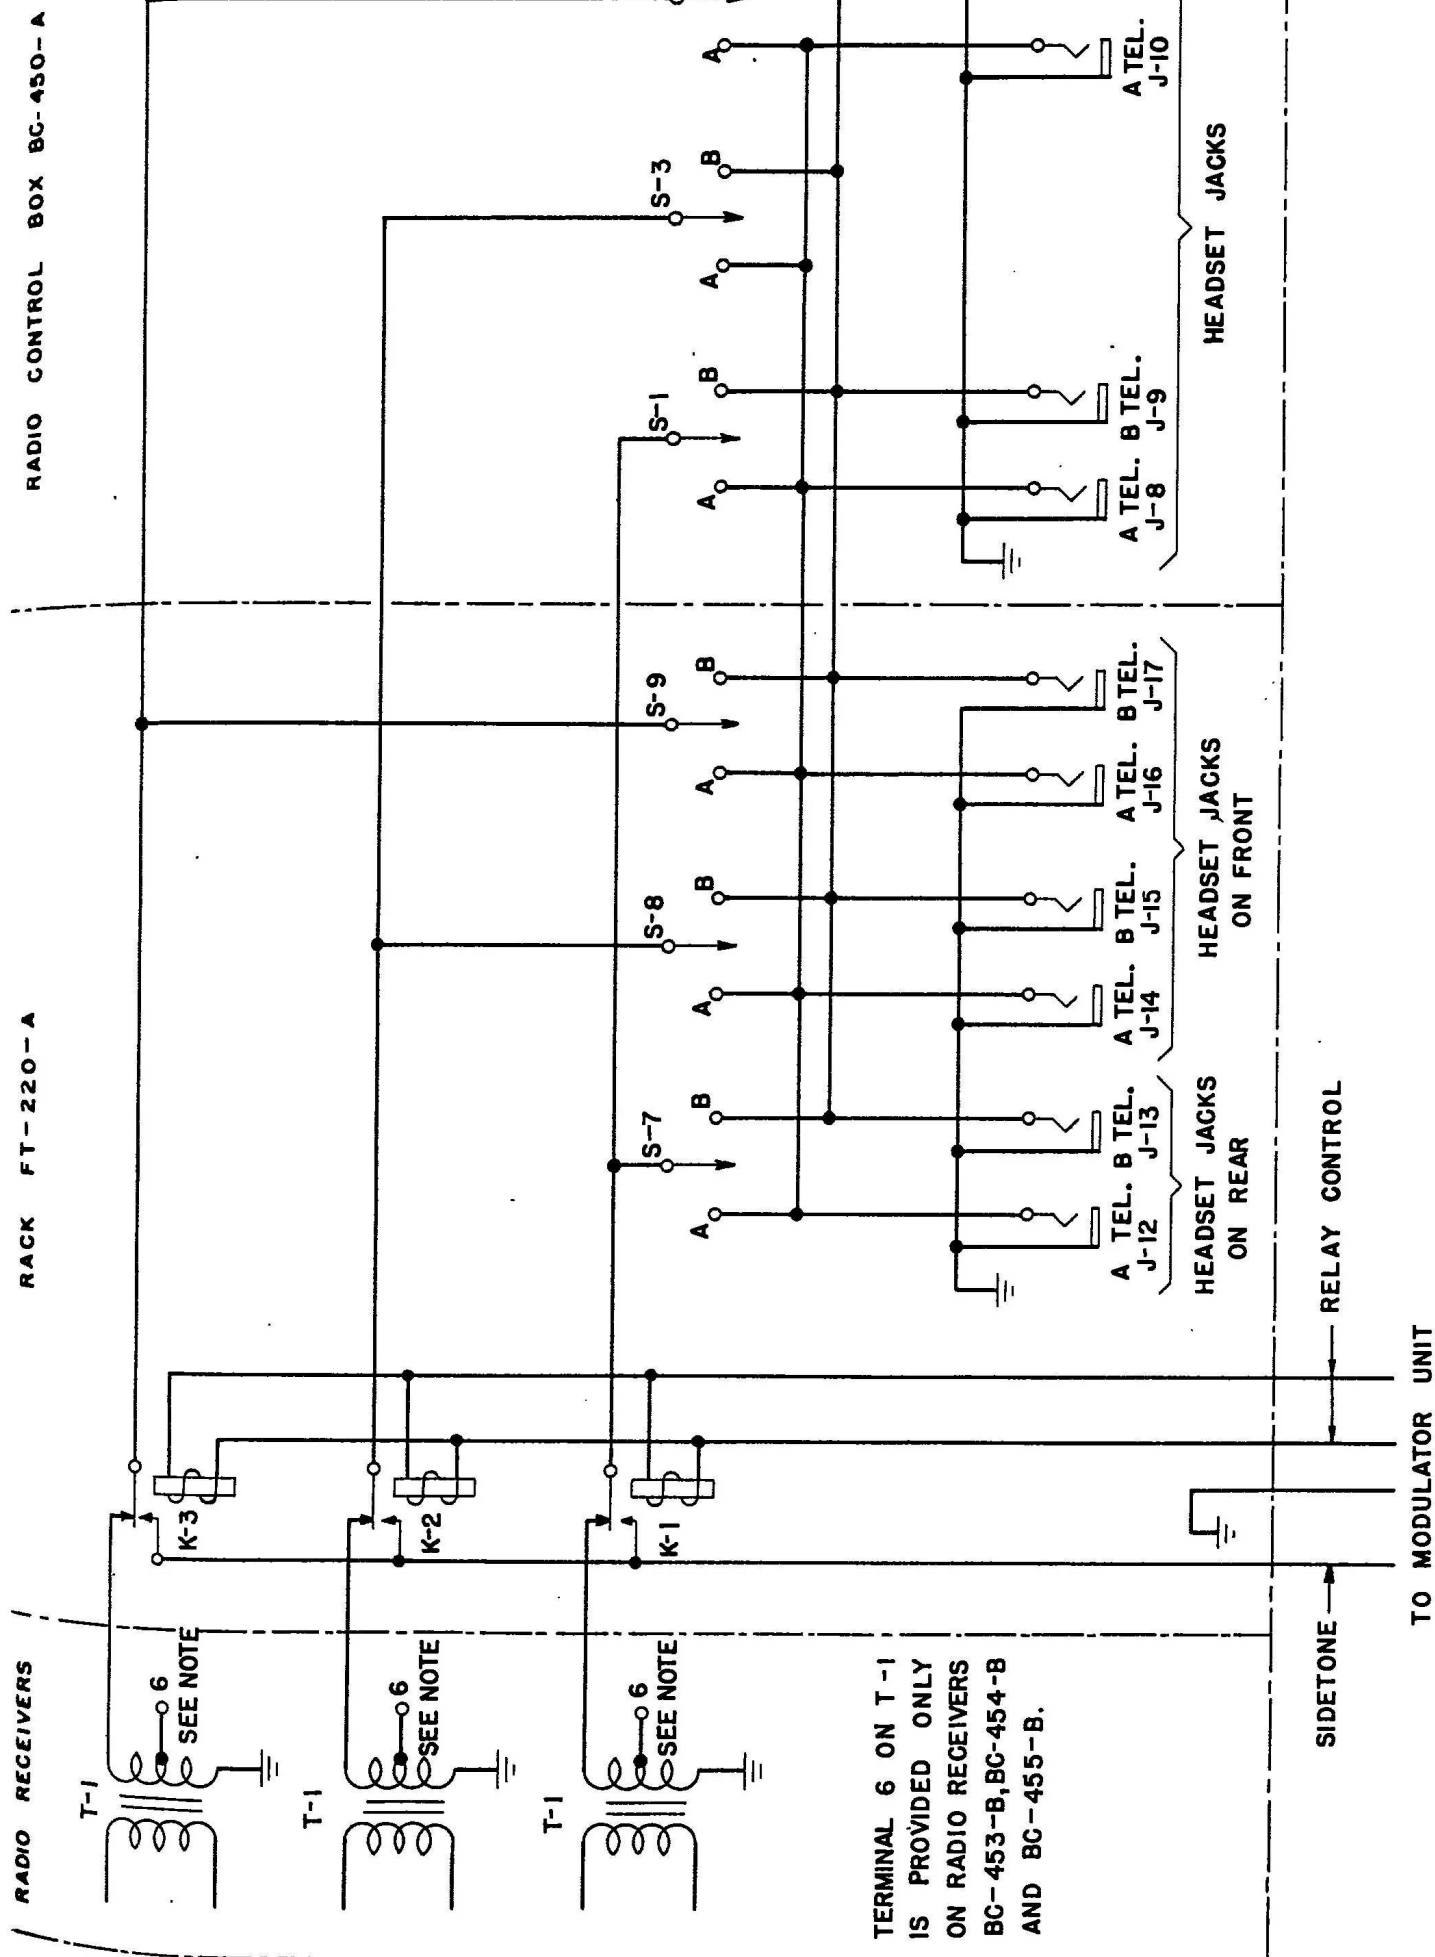

FIGURE 8—FUNCTIONAL DIAGRAM OF RECEIVER OUTPUT CONNECTIONS
(2) Refer to Figure 26 in connection with the following: When S-2 is turned to MCW, primary voltage is applied to one receiver and 7 on J-25 is connected to ground in order to disable the heterodyne oscillator in that receiver. With S-2 on CW the heterodyne oscillator is used for the reception of unmodulated signals. R-25 is a 0-50,000-ohm (variable) gain control resistor in the r-f and first i-f amplifier cathode circuits. S-1 is a three-position switch which isolates the receiver output or connects it to either of the headset lines A and B. Figure 8 is a functional